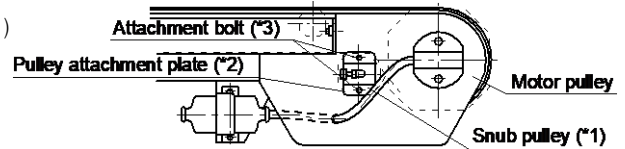

fig.2: Take-up pulley of tail take-up unit
- Tail take-up pulley of tail take-up unit (See fig. 2.)